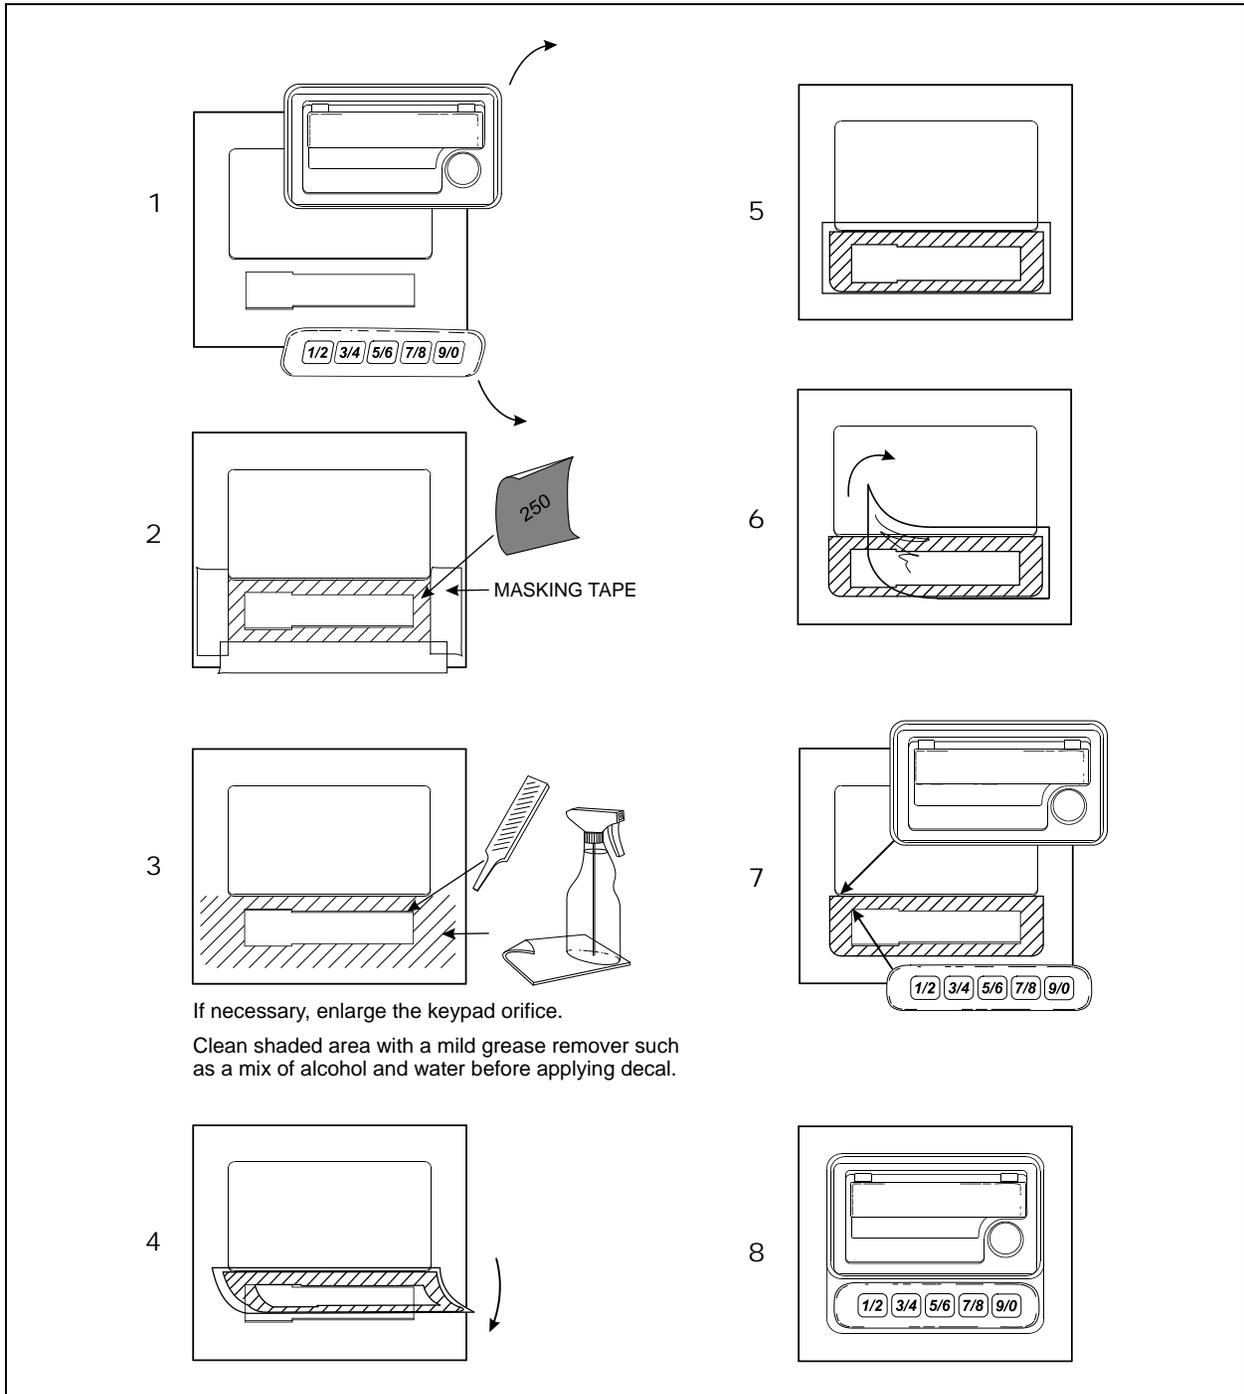

FIGURE 1: INSTALLATION OF THE DECAL AND KEYPAD ON H3-45 VIP
Refer to figure 1.
- ❖ Apply decal #065422 in position (refer to figure 1 and to the instructions below for proper installation):